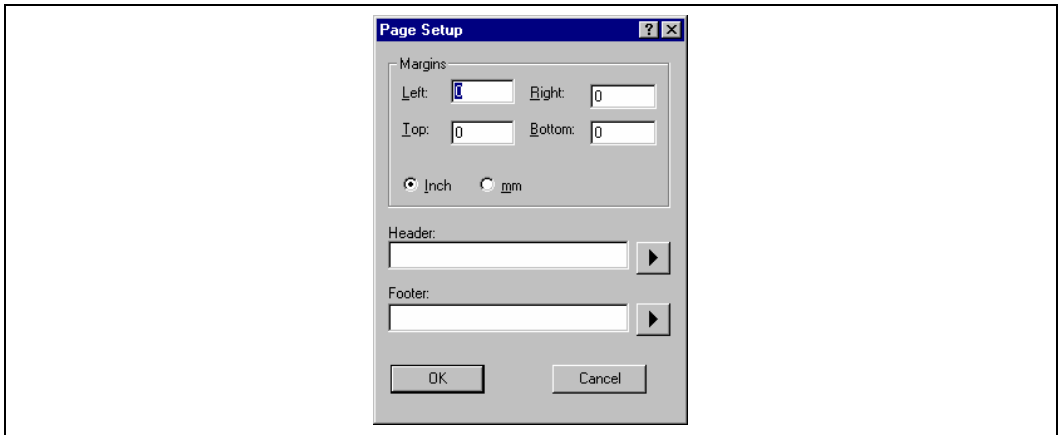

Figure 4.6: Page Setup Dialog
1. Select **[File->Page Setup...]**. The “Page Setup” dialog will be invoked (figure 4.6).